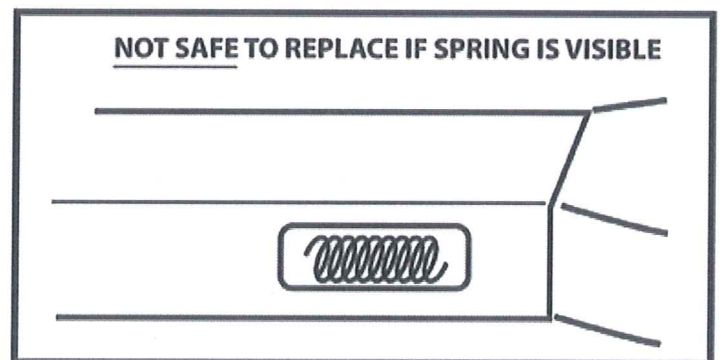

Figure 3
- b. If you do not see the "locking pin" or you see a steel spring in the place where the "locking pin" should be, the ladder cannot be serviced. DO NOT take the ladder apart. (Figure 3)